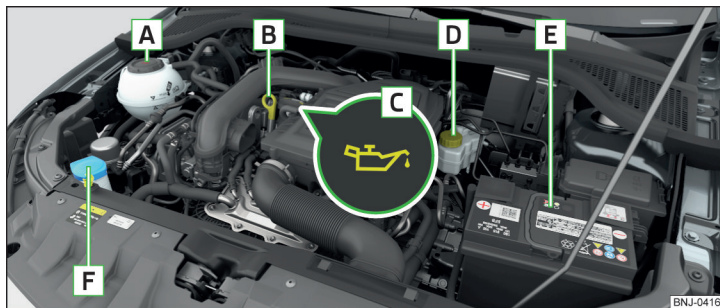

Fig. 247 Arrangement (example) in the engine compartment
- › Unscrew the cap of the engine oil filler opening **C** » Fig. 247 on page 211.